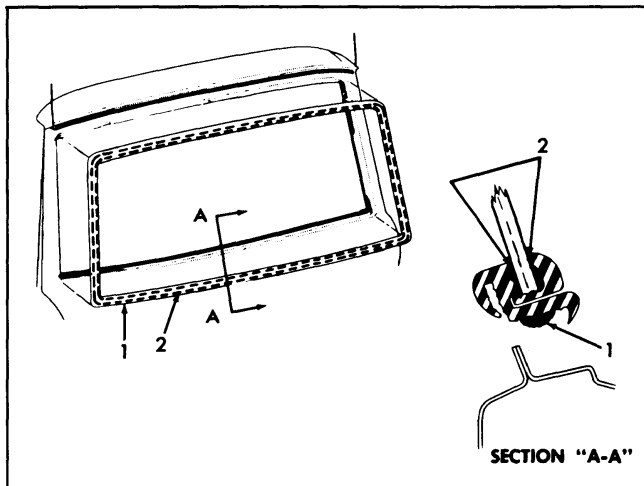

Fig. 15-21 Back Door Window Sealing
4. Apply a continuous ribbon of medium-bodied sealer (Approximately 1/4" thick) to base of rubber channel, (1 in Section "A-A", Fig. 15-21), completely around rubber channel.
7. Using a pressure type applicator, apply weather-strip adhesive (black) between rubber channel and glass on inside and outside of glass, (2 in Fig. 15-21) completely around glass and rubber channel. Application of adhesive should be continuous with no skips.